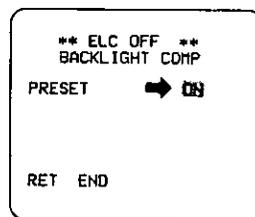

Fig. 48
- Move the cursor to the "PRESET" mode position and select the "ON" mode by using the Left Button (WHT) or Right Button (GAIN). The preset mode menu is displayed on the monitor screen as shown in Fig. 48.